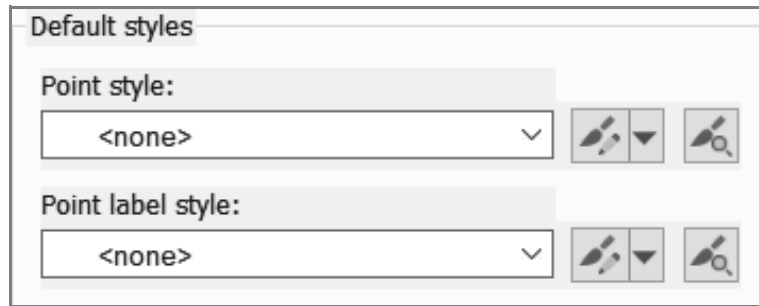

Figure 2–55
4. Select **<none>** for both the *Point style* and the *Point label style*, as shown in Figure 2–55.